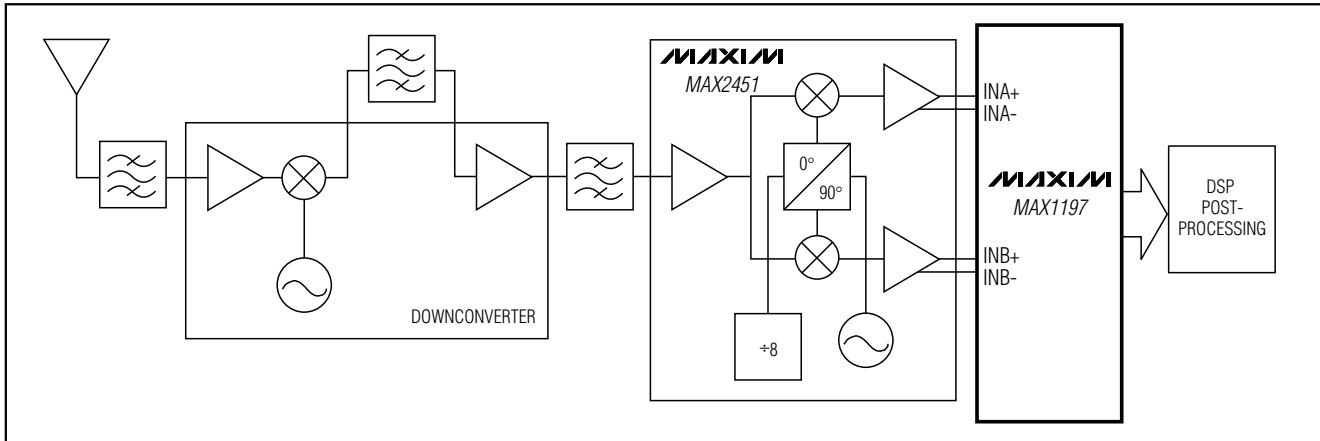

Figure 10. Typical QAM Application Using the MAX1197
modulation (QAM). Typically found in spread-spectrum-based systems, a QAM signal represents a carrier frequency modulated in both amplitude and phase. At the transmitter, modulating the baseband signal with quadrature outputs, a local oscillator followed by subsequent upconversion can generate the QAM signal. The result is an in-phase (I) and a quadrature (Q) carrier component, where the Q component is  $90^\circ$  phase shifted with respect to the in-phase component. At the receiver, the QAM signal is divided down into its I and Q components, essentially representing the modulation process reversed. Figure 10 displays the demodulation process performed in the analog domain, using the dual matched 3V, 8-bit ADC MAX1197 and the MAX2451 quadrature demodulator to recover and digitize the I and Q baseband signals.